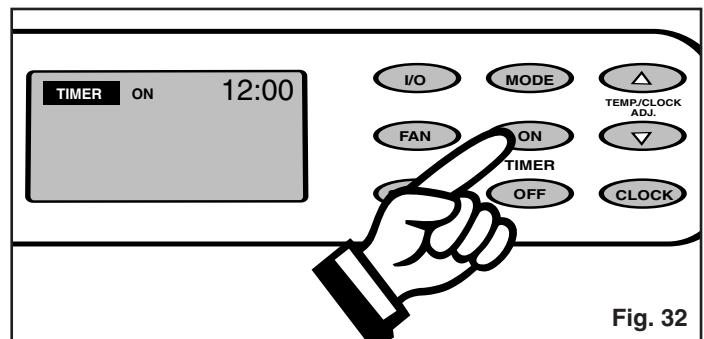

Fig. 32
- 7) Press the **TIMER-ON** key pad to initiate the **AUTO-ON** time sequence. *Fig. 32.* The display window will indicate **TIMER-ON** and the word **ON** will flash for 5 seconds. Press the Δ or ∇ key to select the desired **AUTO-ON** start time.
- 1) Press the **TIMER-ON** key pad to initiate the **AUTO-ON** time sequence. (Fig. 32). The display window will indicate **TIMER-ON** and the word **ON** will flash for 5 seconds. Press the **△** or **▽** key pad to select the desired **AUTO-ON** start time. (Fig. 32a).